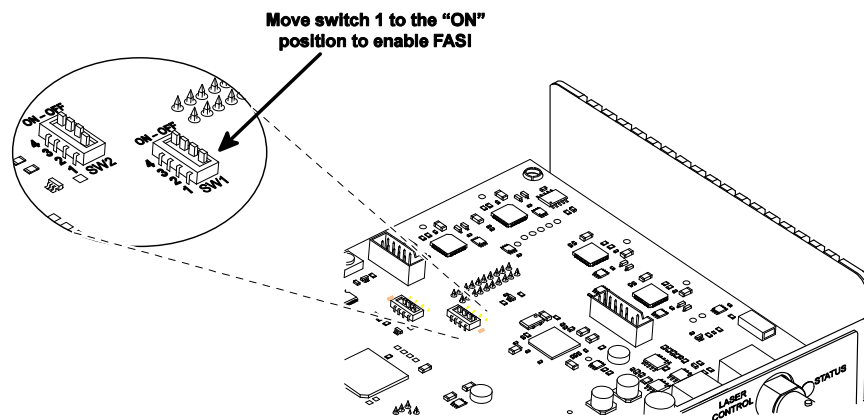

Figure 3 Flyer DIP switch locations
- 4 Locate the DIP switch bank labeled SW1 on the CPU board (see Figure 3) and move switch # 1 to the "ON" position.